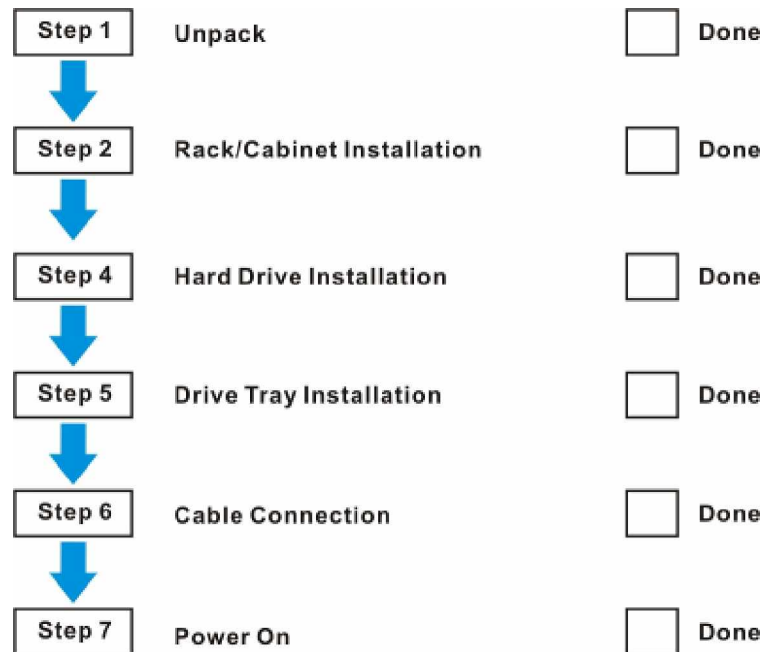

Figure 2-1: Installation Procedure Flowchart
*Figure 2-1* shows a flowchart of the installation procedure. As you complete each step, check off the “*Done*” box on the right. Please use this flowchart in conjunction with the instructions that follow.